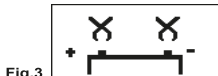

Fig.3
2. If any of the Analyser clip was not properly clamped to the battery contact, the display will flash alternatively between Fig.3 and 4. In such event, unclamp and clamp the clips again on the battery posts to ensure the contacts are good before conducting a test.